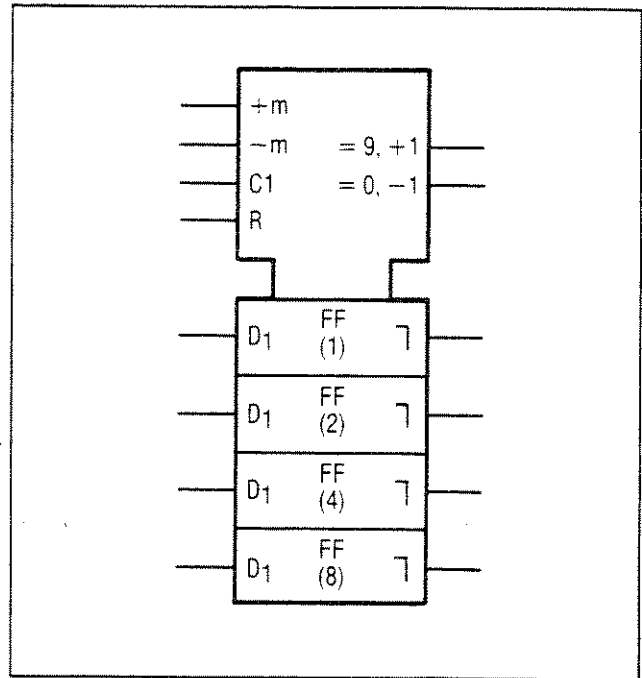

Figure 8-100. Up/Down Counter
**UP-DOWN Counter.** The counter control block shows common inputs to a Presettable Decade UP-DOWN Counter (see Figure 8-100). Notice that "+m" means count up (increment the count) by "m"; "-m" means count down by "m." Note: if m=1, then "m" may be omitted. Since the D-type flip-flops are master-slave, the output delay indicator is used.